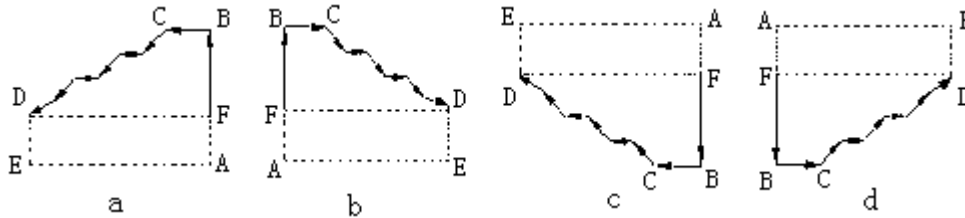

Fig. 4-36
- ① When executing G71, the system automatically searches and executes P~Q blocks; after executing them, it proceeds to the block following G71. However, if P~Q blocks are compiled following G71, the system returns to the starting point and then executes the block following Q.
- ② Before roughing, the system will calculate the rough turning point according to programmed contour. To prevent imprint on roughing points, there should be an allowance between roughing point and contour: 0.03 in X direction, 0.05 in Z direction.
- ③ In P~Q blocks can only include G commands: G00, G01, G02, G03, G05, G04, G96, G97, G98, G99; and common input/output control M commands; other commands are not allowed (e.g. T, transfer, call command). The system only uses Z/X programming. The number of paths in P~Q blocks cannot exceed 1000.
- ④ F, S command in P~Q blocks are invalid when executing the sidestep roughing, and they are valid only in the contour path; thus, F speed should be specified in advance or F is programmed in the same block with G71 in the sidestep roughing.
- ⑤ In P~Q blocks, X, Z dimension data must be monotonous slope-type change (always increasing or reducing) ; and X must starts from the machining contour starting point B to monotonously change to G71 starting point A.
- ⑥ None of address I, K has signs, and the tool infeed direction is automatically determined by the system. The smaller I is, the more the roughing layers are.
- ⑦ I range is related to X(U) range; I, U range must meet the requirement that U/I is smaller than 10000.
- ⑧ When executing feed hold, single block, the system pauses after it executes the path end point of the current step.
- ⑨ This command cannot be in the same block with other commands. It must be specified in an independent block.
- ⑩ There are four cases when using G71 command to cut the workpiece, as in Fig. 4-36; For each one, the tool cuts from G71 starting point A and roughs the blank in parallel with Z till B is reached.
- ⑪ Generally, X coordinate of BCD section should be within the range between B and A; when D exceeds A, the system does not rough the exceeded part.
- ⑫ There are four cases for the shapes cut by G71 command: in Fig. 4-36, A is G71 starting point, B is the starting point of machining contour, D is end point of machining contour, BCD section is the machining path.